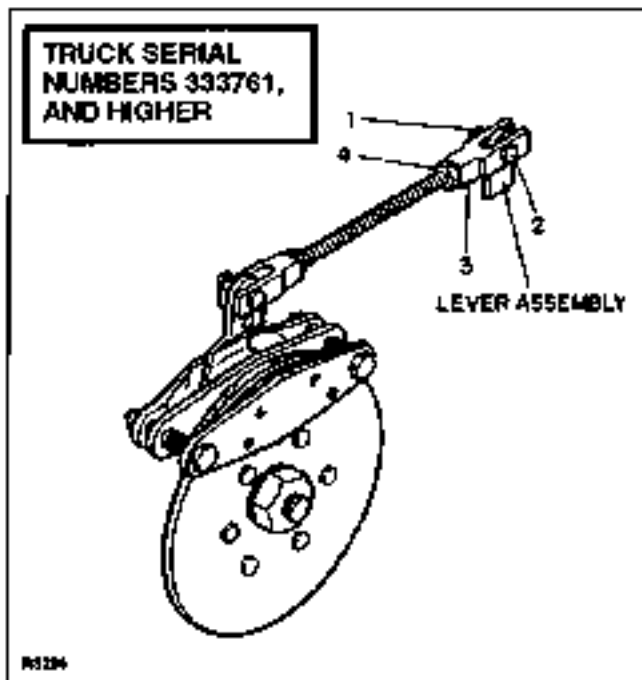

Figure 6-2. Adjustment For Truck Serial Numbers 333761 and Higher.
5. Remove the cotter pin (1, Figure 6-2), and pin (2) to disconnect the clevis (3) from the lever assembly.
6. Loosen the lock nut (4).